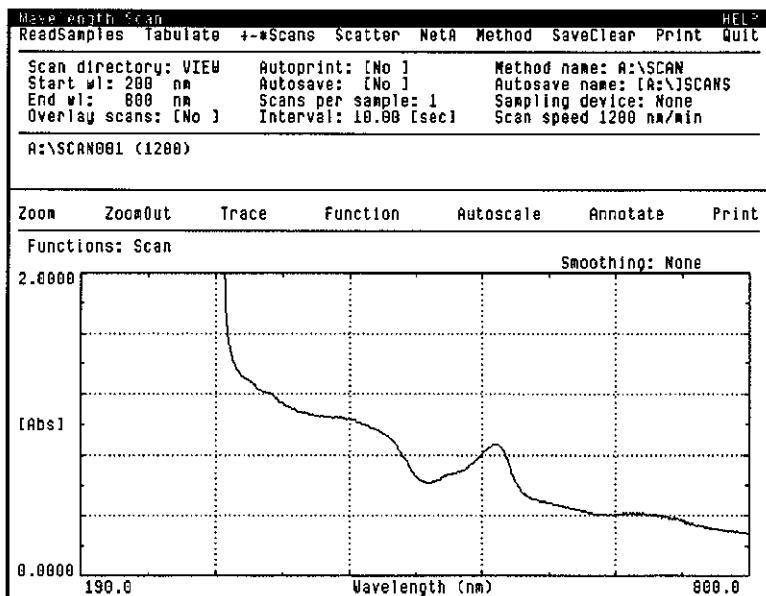

Figure 6-3. Wavelength Scan Window
3. The sample is scanned and the data is displayed. The data may be stored or printed automatically, based upon the selections for "Autosave" and "Autoprint". A typical Wavelength Scan window with data from a single sample is shown in Figure 6-3.